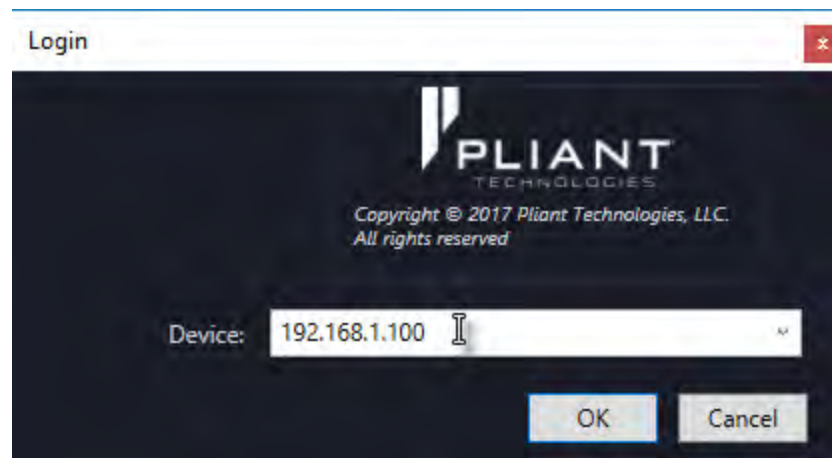

Figure 5 LAN Login Dialog Box
- A. Once the CU IP Address is assigned/set and your computer's Manual IP Address is set (if needed), click the **Offline** button in CrewWare. The Login dialog will display. (See Figure 5 below.)